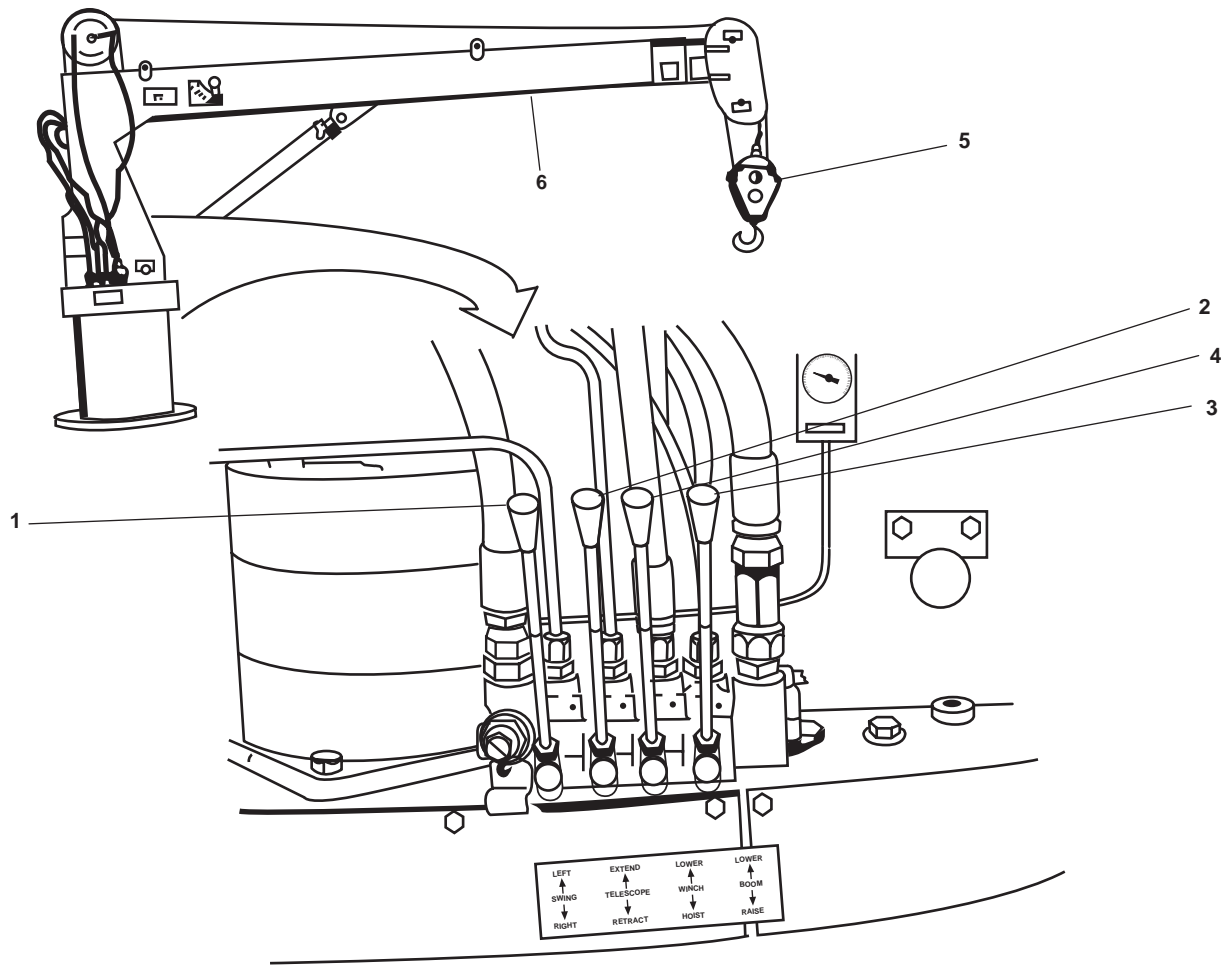

Figure 47. Crane Controls
3. Movement of the crane controls (figure 47, items 1 through 4) produces a corresponding movement in the crane's block (figure 47, item 5) or boom (figure 47, item 6).
- a. To swing the crane to the right, pull the SWING control handle (figure 47, item 1) toward the operator. To swing the crane to the left, push the SWING control handle away from the operator.
- b. To extend the boom (figure 47, item 6), push the TELESCOPE control handle (figure 47, item 2) away from the operator. To retract the boom, pull the TELESCOPE control handle toward the operator.
- c. To move the boom (figure 47, item 6) down, push the BOOM control handle (figure 47, item 3) away from the operator. To move the boom up, pull the BOOM control handle toward the operator.
- d. To raise the block (figure 47, item 5), pull the WINCH control handle (figure 47, item 4) toward the operator. To lower the block, push the WINCH control handle away from the operator.